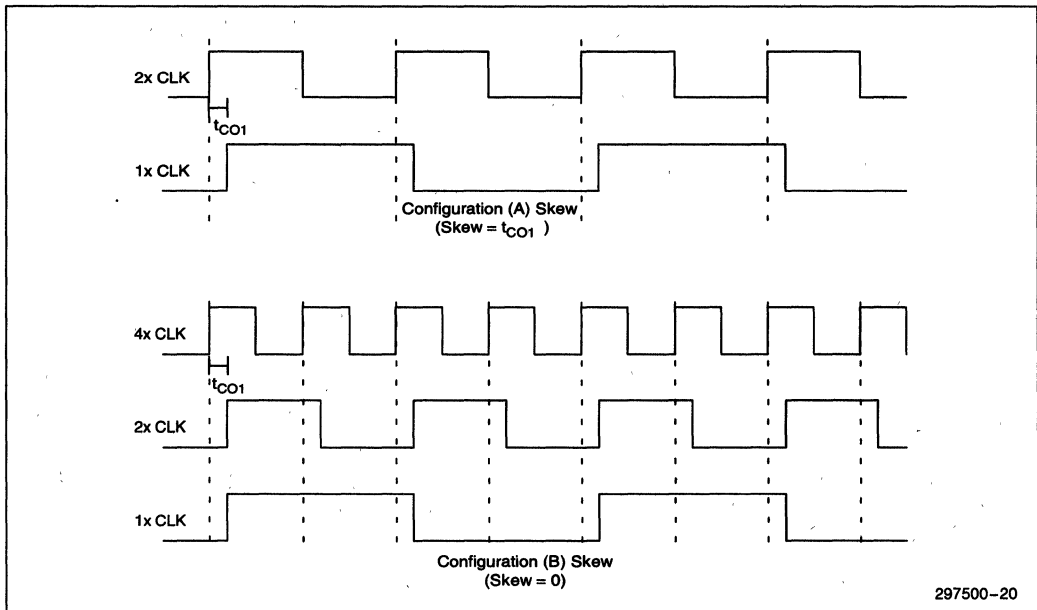

Figure 20. CLK Skew Produced by the Two Different CLK Generation Methods Illustrated in Figure 19
a maximum skew of T_{CO1} , while method (B) will have little to no clock skew because the 2x and 1x CLKs are exposed to the same PLD delay (see Figure 20).